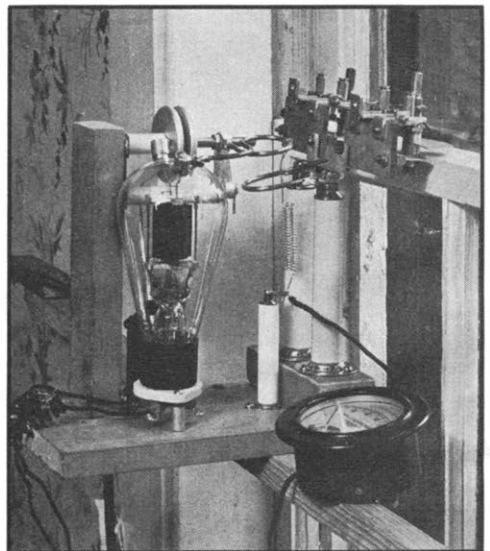

FIG. 2—THE LIGHT IN THE WINDOW—THE 130 CENTIMETER TRANSMITTER AT W1AL
- RFC₂—About 10 turns of the filament leads wound on a pencil (see Fig. 2).
- The new W.E. 304A is now used in this circuit at AL. The 800 shown in Fig. 2 was also satisfactory.